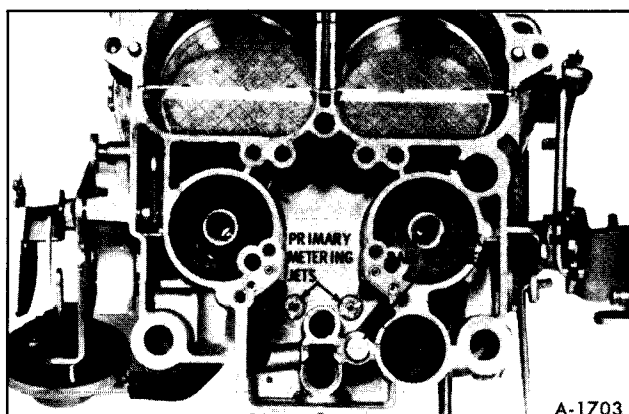

Figure 18-Primary Metering Jets
8. Remove primary metering jets. No attempt should be made to remove secondary metering plates (figure 18).
3. Install primary metering jets. See Figure 18.